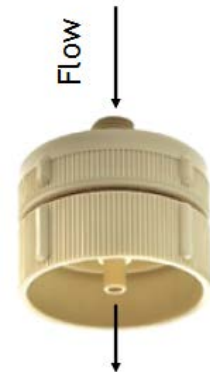

Figure 1. Swinnex 47 mm Filter Holder
- Open the Swinnex 47 mm filter holder by unscrewing the upper half from the bottom half. See Figure 1. Using forceps, center a 0.45 µm cellulose acetate filter onto the lower half. Do not handle the filter with bare hands.